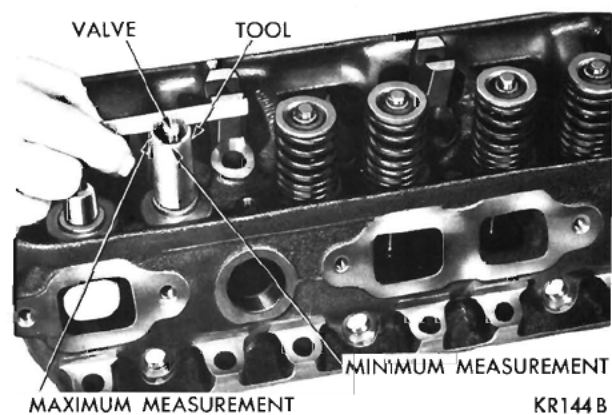

Fig. 76—Measuring Valve Stem Length (Typical)
(5) When the valves and seats are reground, the position of the valve in the cylinder head is changed, the valve stems will extend farther out of the cylinder heads. This increased dimension will decrease valve spring compression, and for 361, 383, and 426 cubic inch engines only it will shorten the operating length of the hydraulic tappet. This means that the plunger is operating closer to its bottomed position, with less clearance available for thermal expansion of the valve mechanism during high speed driving.
(6) The design of the valve mechanism includes a safety factor to allow for a limited amount of wear, and the refacing of valves and seats.
(7) To insure that the limits have not been exceeded, the dimension from valve spring seat in head to valve tip should be measured with gauge Tool C-3968 for 273 Cubic Inch Engine and gauge Tool C-3927 for 318 Cubic Inch Engine and gauge Tool C-3648 for 361, 383 and 426 Cubic Inch Engines, as shown in Figure 76.